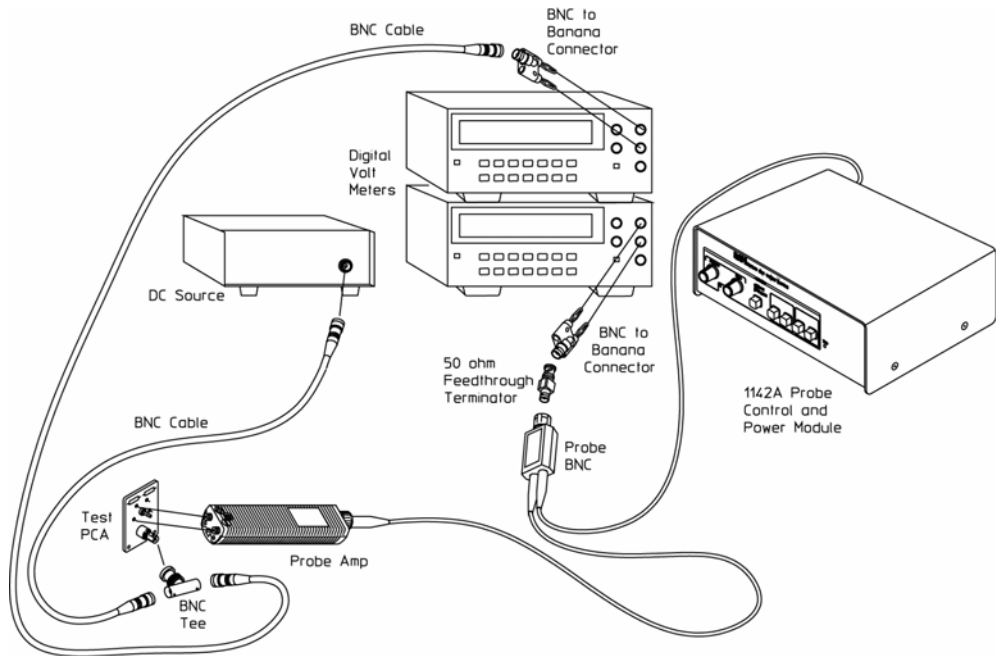

Figure 11 Test Setup
- 1** Connect the probe and test equipment as shown in Figure 11 on page 30.
- 6 Record the V_{in1} measurement from the top DVM in Figure 11.
- 7 Record the V_{out1} measurement from the bottom DVM in Figure 11.
- 9 Record the V_{out2} measurement from the bottom DVM in Figure 11.
- 4 Record the V_{in1} measurement from the top DVM in Figure 11 on page 30.
- 5 Record the V_{out1} measurement from the bottom DVM in Figure 11 on page 30.
- 7 Record the V_{out2} measurement from the bottom DVM in Figure 11 on page 30.